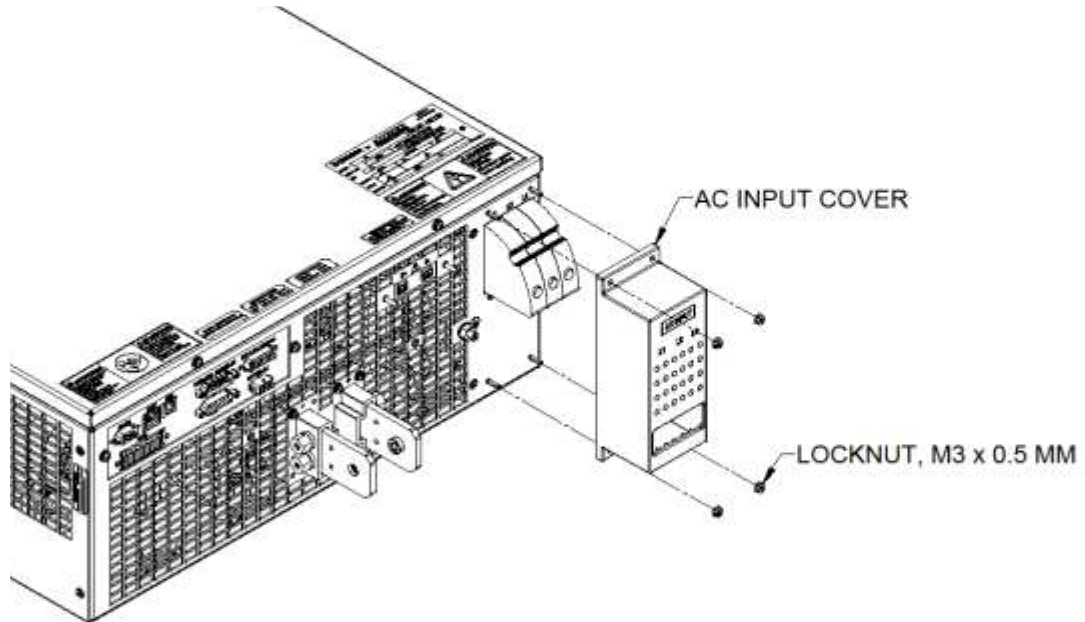
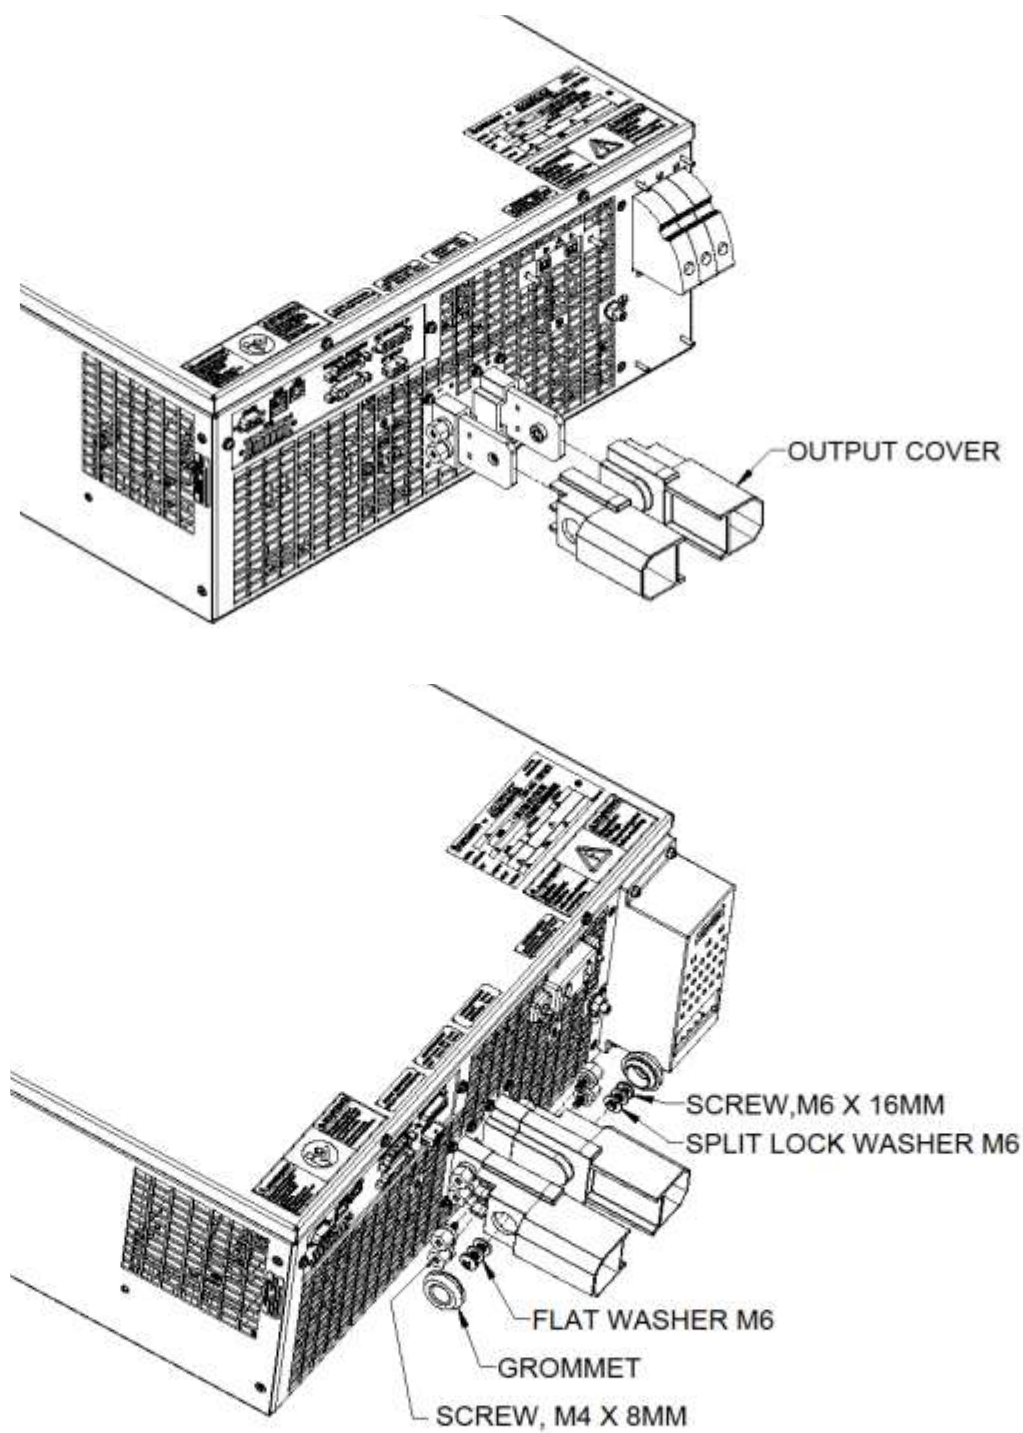
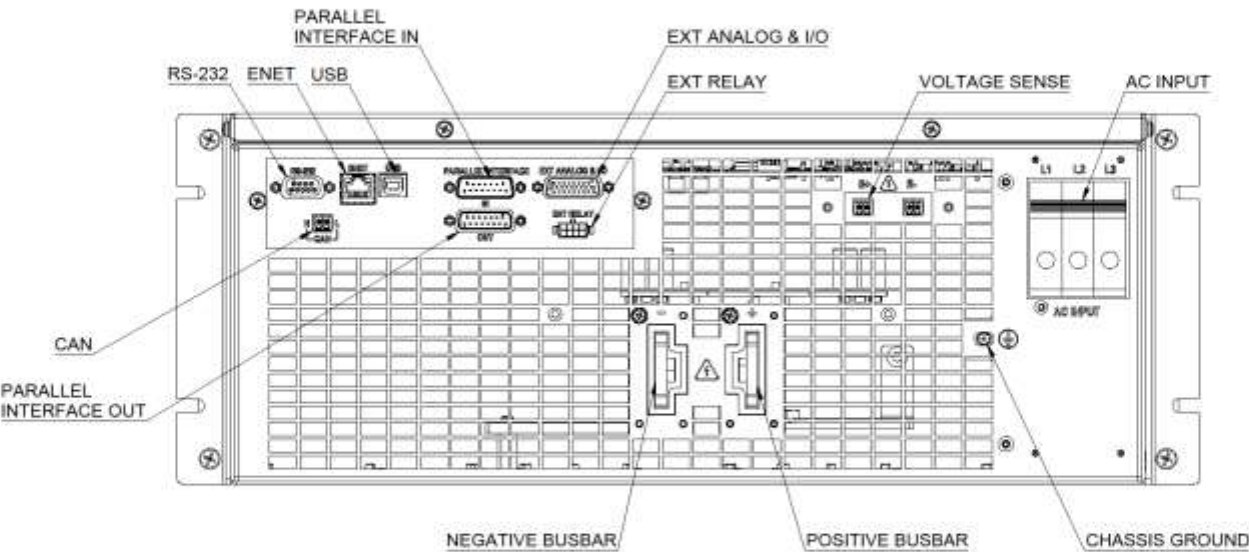

*Figure 3-3. AC Input Protective Cover*
**Figure 3-4. Rear Panel DC Protective covers**
Figure 3-6: Rear Panel View
Figure 3-3 and Figure 3-4 shows the installation of the rear panel protective covers for the AC input and DC Output terminations. The components comprising these covers are supplied in the ship kit. Figure 3-6 shows the rear panel view of the power supply and the location of the connectors.
Protective covers are provided for the rear panel AC input connector. They are installed to studs on the rear panel, as shown in Figure 3-3, using M3 X 0.5 KEPS-nuts with a maximum tightening torque of 0.8 Nm (7 lb-in). The components comprising the covers are supplied in the ship kit.
Protective covers are provided for the rear panel DC output connector. Install safety cover P/N: 9580289-01R on the positive bus bar and P/N: 9580289-02R on the negative bus bar, securing each with an M4 × 8 mm screw, refer to Figure 3-4. The components comprising the covers are supplied in the ship kit.
Figure 3-6 shows the rear panel view of the power supply and locations of the rear panel connector. Table 3-3 provides details of the connectors located in the rear panel of the power supply.
- f) After completing the connections, install the safety cover onto the unit using M3 × 0.5 mm locknuts to ensure proper protection and compliance with safety standards. Refer to Figure 3-3.